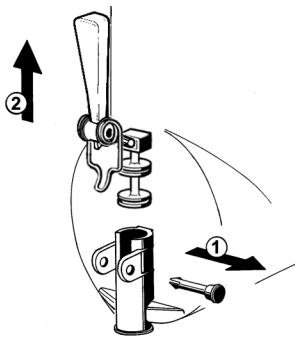

figure 11
- 5 - Dismantle the faucet assembly (see figure 11).
- 3 - Assemble the faucet by reversing the disassembly steps (see figure 11)